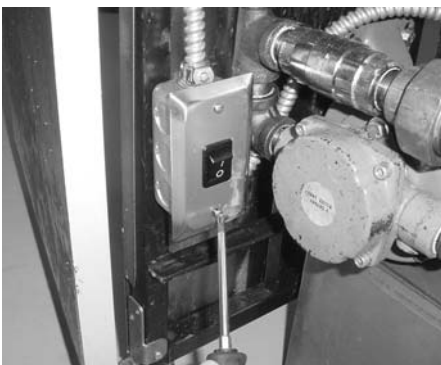

Figure 2-34
2. Open the door (left door on 2 well units), and remove the 2 screws securing the switch box cover. Figure 2-34.